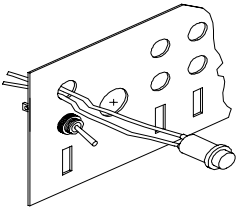

Fig. 2
3. Install the lights from the front side of the panel into the upper holes. Press them in place with your thumb. (Fig. 2)